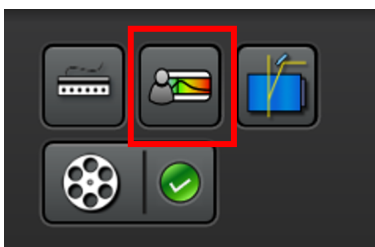

Figure 12
1. Click on the **Dye Assistant** icon located in the middle of the page. See Figure: 12